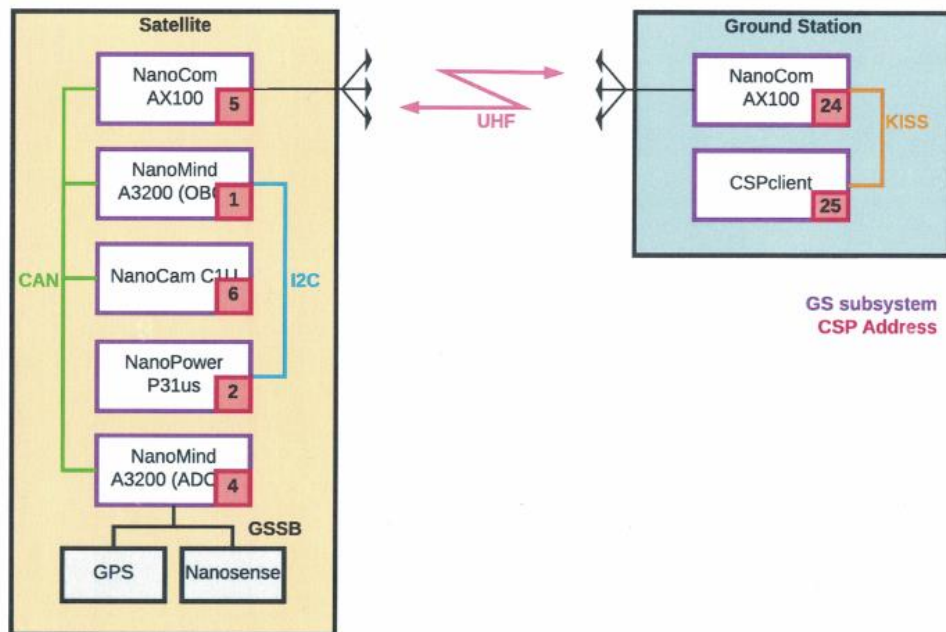

Fig. 3: Left – S/C bus. Right – Ground Station. Includes CSP addresses in red boxes.
- There are 32 unique addresses in CSP (see figure 3)